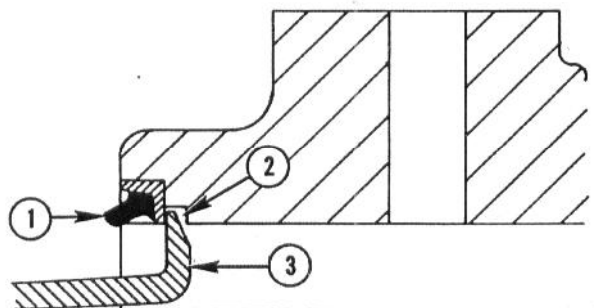

Fig. 69 — Removing Metallic Shell Wiper Seal
- i. Slide bearing assembly from rod ... remove all seals from bearing, see Fig. 69.